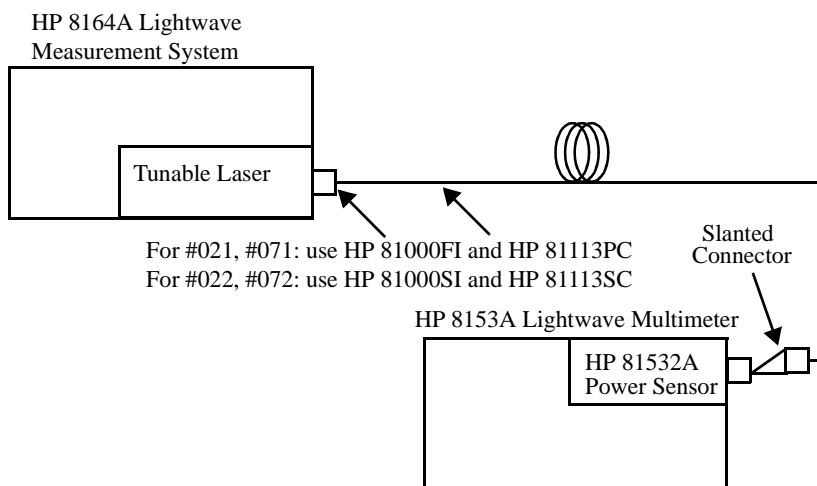

Figure D-5
- 1 Set up the equipment as shown in Figure D-5.